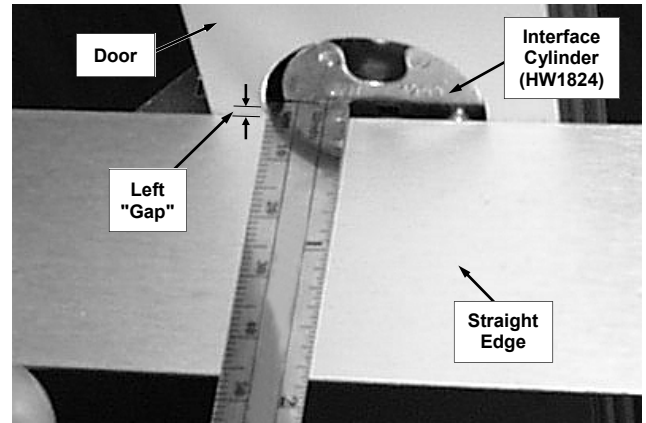

Fig. 3b: Measure left "gap": Place a small ruler against the left side of the interface cylinder.
- 3b. Measure the left "gap" with the ruler on the left face of the interface cylinder, as shown in Fig 3b.